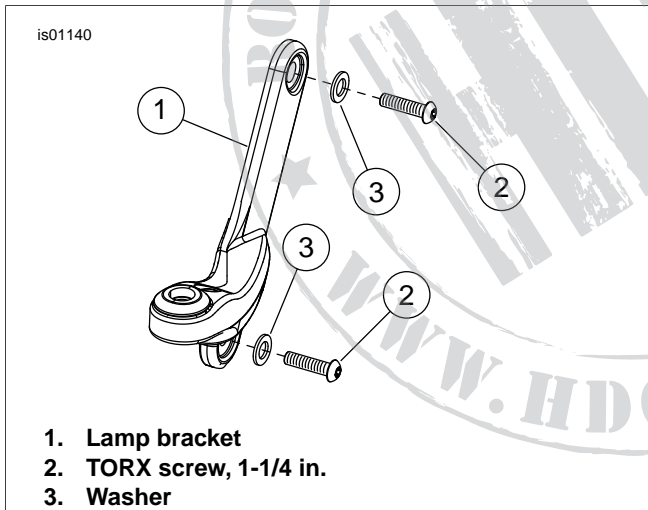

Figure 6. Lamp Bracket Assembly (FLHT)
- See Figure 6. Hold left side lamp bracket (1) in mounting position on motorcycle. Install two TORX screws (2) and washers (3) into lamp bracket (1) and attach to motorcycle. Tighten screws to 12-16 ft-lbs (16-22 Nm). Repeat for right side.